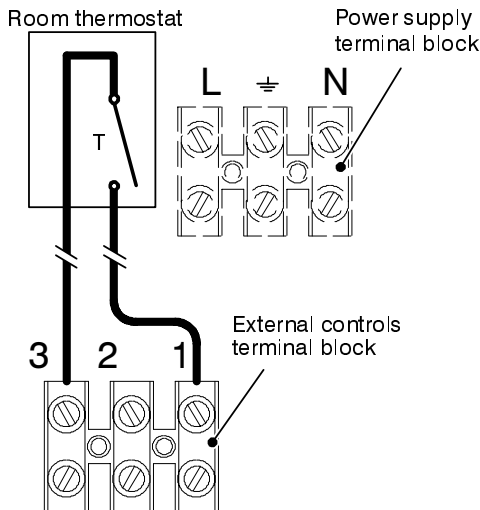

Fig. 6.16
- 8 Connect the room thermostat between terminals 1 and 3 as shown in Fig. 6.16. **Do not connect live wires to terminals to which the room thermostat must be connected.**